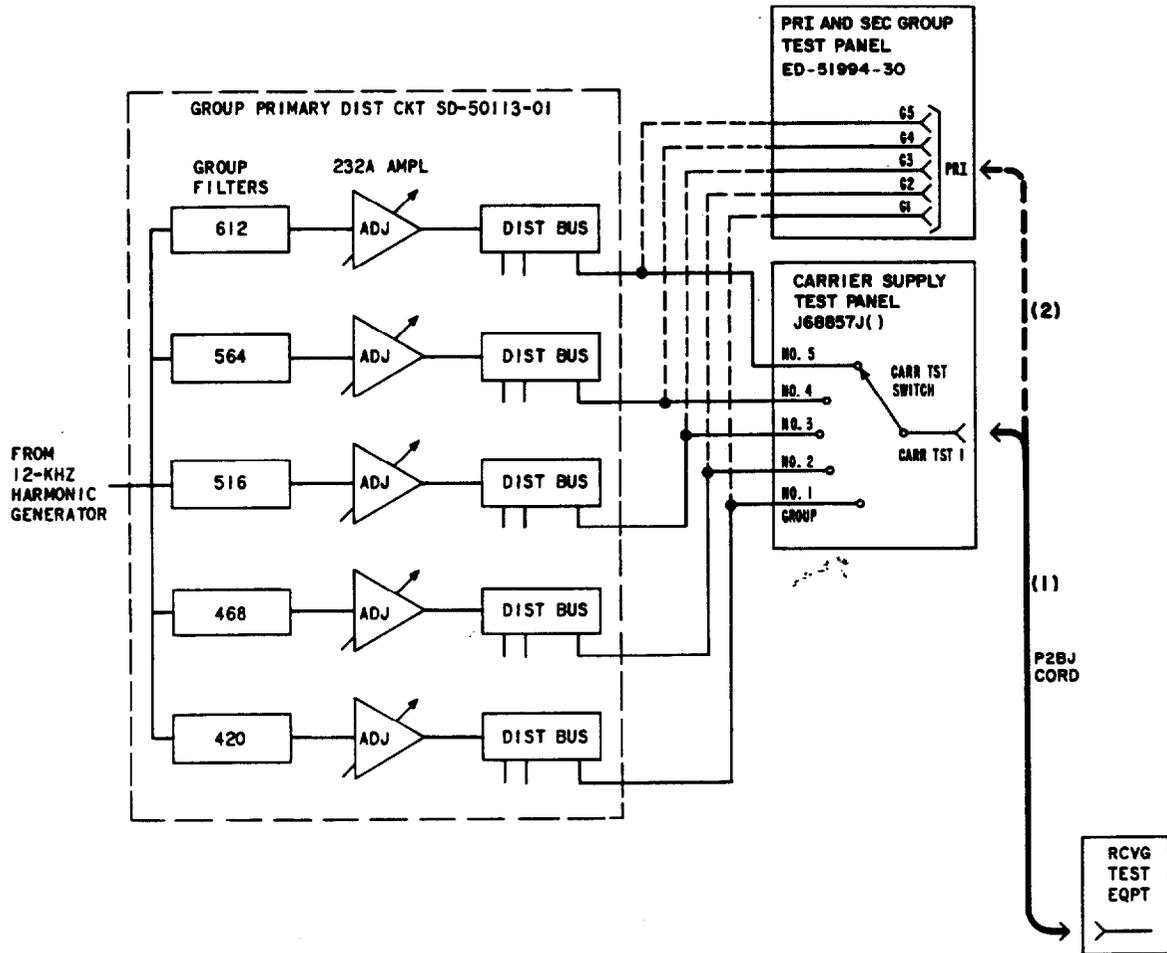

Fig. 2—Group Carrier Supply—Measurement of Group Primary Distribution Circuit Output Power
This section is reissued to update Table A and Fig. 2 for the testing of latest equipment configurations.
- 2 Identify the equipment carrier test panel in use and refer to Fig. 2.
- 3 (a) On test panel J68857J() connect the RTE to the CARR TST 1 jack [Patch (1) Fig. 2], and set the CARR TST switch for the group frequency under test. See Table A.
(b) On test panel ED-51994-30(), connect the RTE to the G() test jack [Patch (2) Fig. 2] for the group frequency under test. See Table A.
- 7 Remove P2BJ patch cord in Fig. 2.